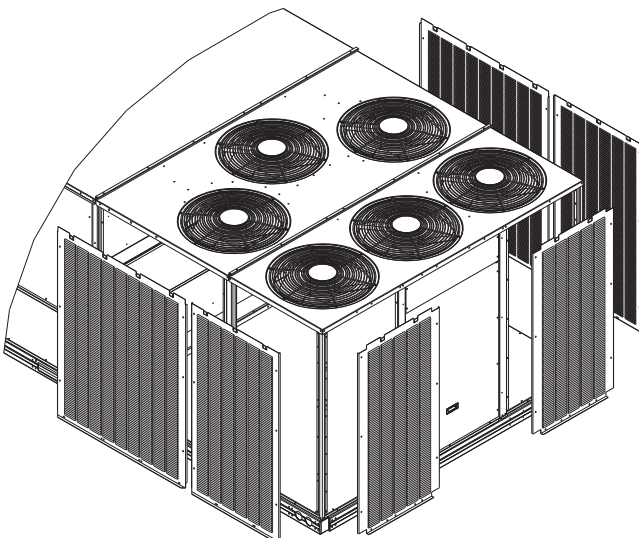

Fig. 2 — Hail Guard Installation – 6 Fan Units
3. Remove wire grills from unit and save screws. For 3 and 4 fan units see Fig. 1. For 6 fan units see Fig. 2.